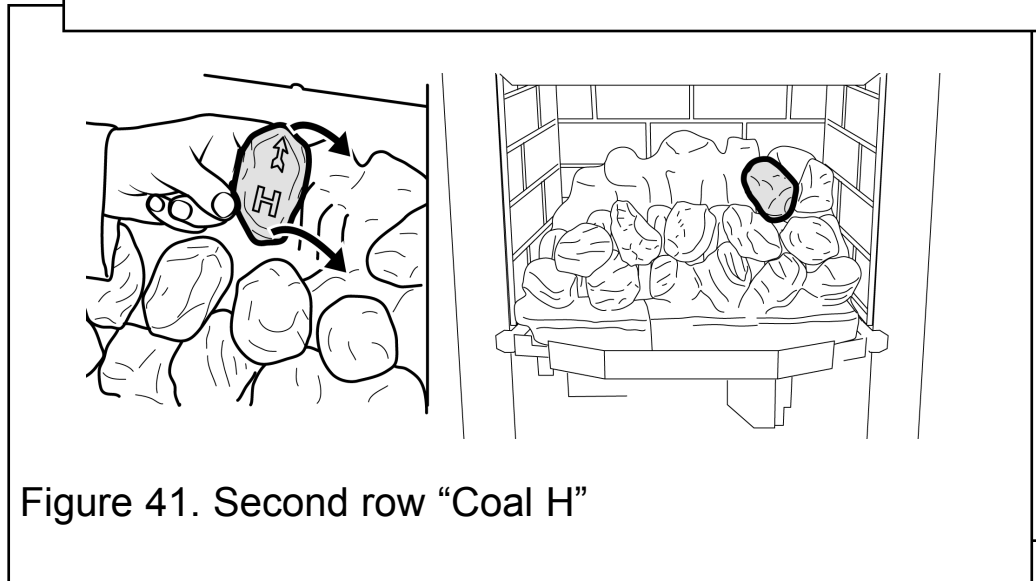

Figure 41. Second row "Coal H"
**17.** Hold coal 'H' upright with the arrow pointing to the top. Locate coal 'H' as shown in figure 41